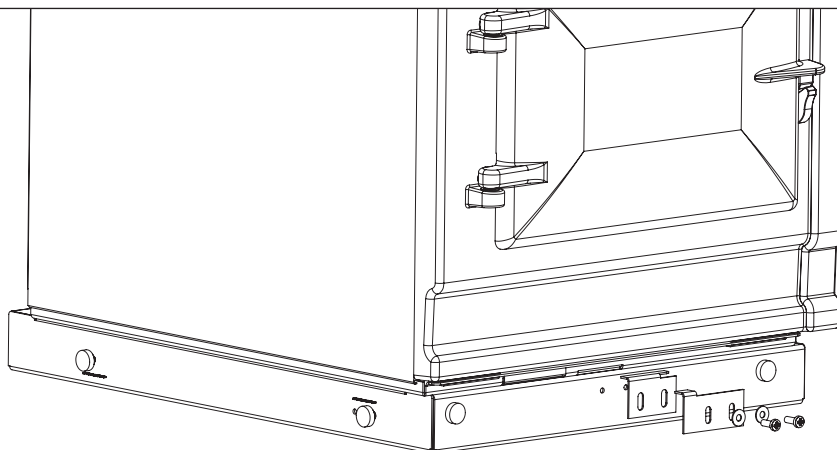

Fig. 5.1
1. Detach hotcupboard from plinth by removing two screws and tongue bracket from plinth (**Fig. 5.1**), slide hotcupboard forwards and away from rear fixing bracket (**Fig. 5.2**).